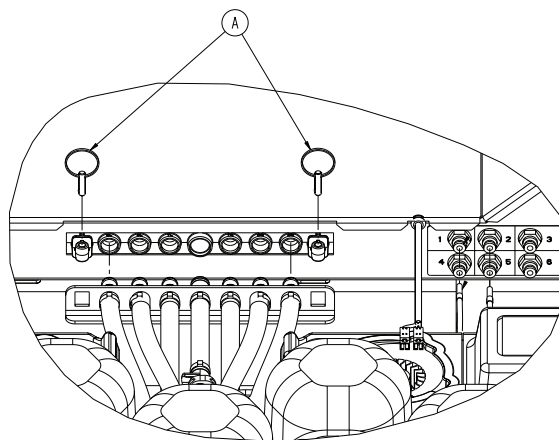

Figure 6 – Retaining pins
6. Remove the two retaining pins (A) from the hose quick connection from the foot box assembly (Figure 6). Save the pins.